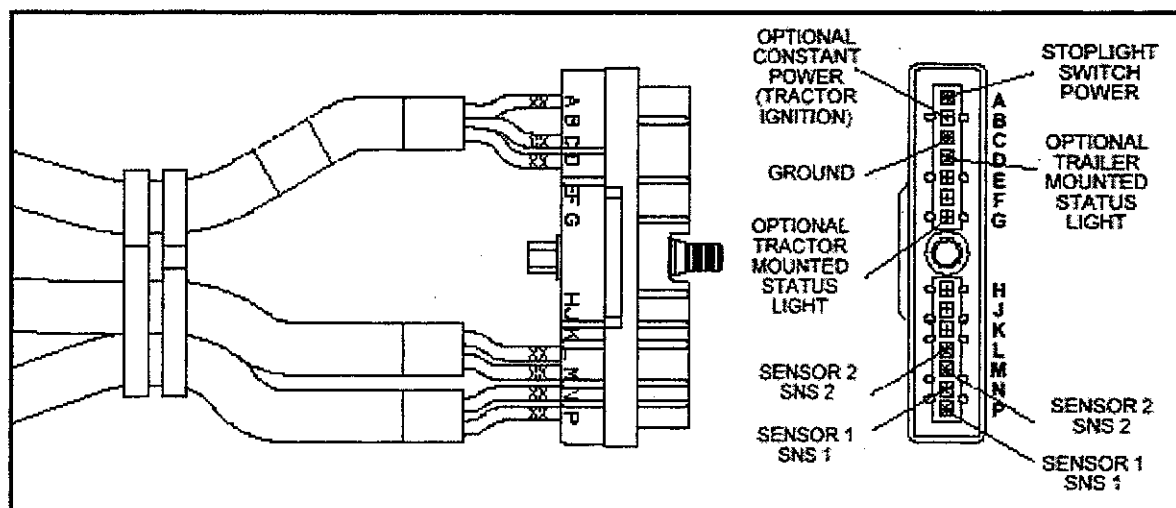

Figure 8—Electrical Connector
- See Figure 8—Antilock Mode Solenoids Activated